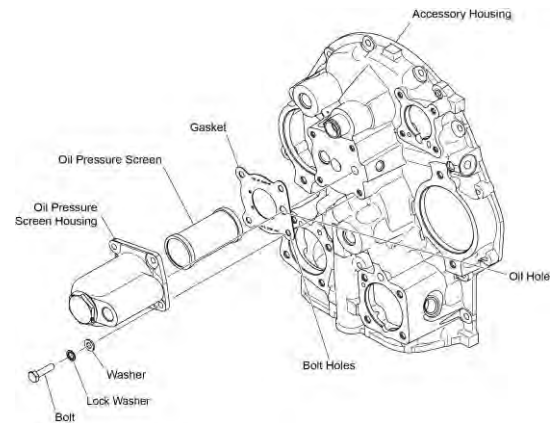

Figure 3
- B. Remove the four bolts, lock washers, and washers from the oil pressure screen housing (Figure 3). Discard the lock washers.
- J. Install the oil pressure screen (Figure 3) with a new gasket in the oil pressure screen housing flush with the base of the oil pressure screen housing.
- K. Install the oil pressure screen housing assembly with the new gasket on the pad of the accessory housing aligned with the bolt holes and oil hole on the pad of the accessory housing using the four bolts, each with a washer and a new lock washer as shown in Figure 3.